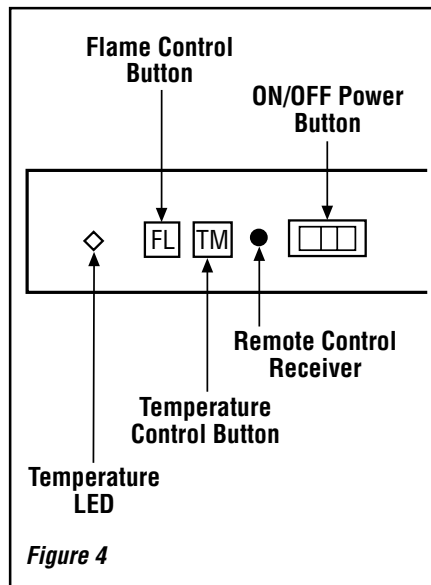

Figure 4
The controls (see **Figure 4**) are located on the bottom right corner of the unit.
2. **Main ON/OFF Power Switch:** This switch is located on the right side of the control panel (see **Figure 4**). When the unit is on, the default settings for the fireplace is HI ember bed and flame and the heater is OFF.
3. Temperature Control Button and LED: This button is located to the left of the Remote Control Receiver (see **Figure 4**). The LED is located to the right of the Flame Button. Push button to cycle through the settings. When this button is pushed, the LED will change to its corresponding color; Green for LO, Orange for MED, and Red for HI. When heater is on, heat will emit through vents located above the fire-box opening panel (see **Figure 6, page 7**).
4. Flame Control Button: This button is located to the left of the Temperature Button (see **Figure 4**). After power is on, push the Flame Control Button to adjust flame and ember bed brightness. Press and release the Flame Control Button to cycle through LO, MED, HI and OFF.